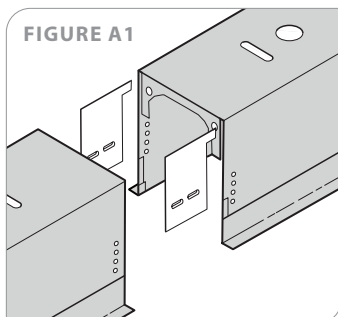

FIGURE A1
1. Install (2) housing aligner splines per seam and secure to housing with #8-32 x 3/8" HHWSL Screw (Figures A1 & A2).